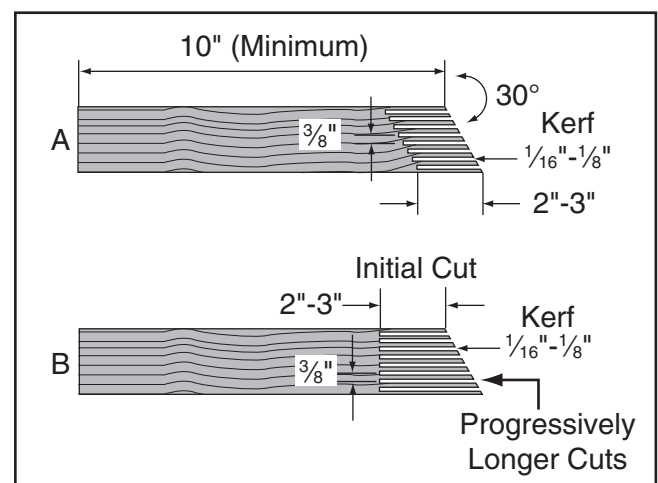

Figure 96. Patterns for featherboards (top view shown).
3. Make a series of end cuts with the grain $\frac{3}{8}$ "– $\frac{1}{4}$ " apart and 2"–3" long, as shown in **Figure 96 (A)**. Alternatively, start cuts at 2"–3" deep, then make them progressively deeper, as shown in **Figure 96 (B)**. Cuts made across the grain will result in weak fingers that will easily break.